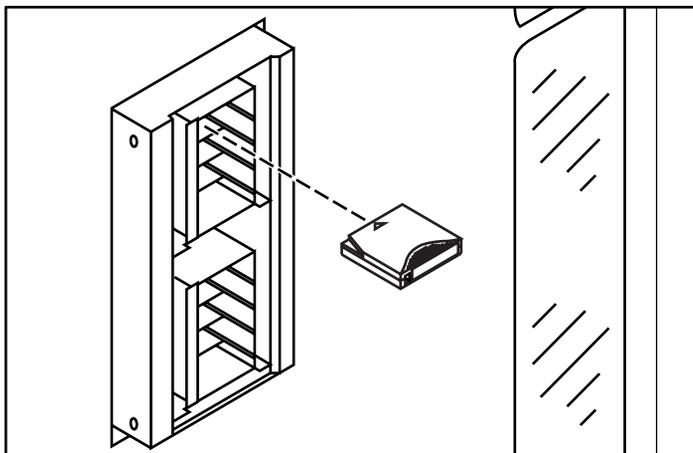

Figure 21: Inserting a tape cartridge into a magazine
4. With the load port door open, place the tape cartridge in an available magazine slot (see Figure 21 on page 56).
The 4-cartridge magazines are stationary and built into the load port. Simply place cartridges into the bins with the bar codes facing out (see Figure 21):